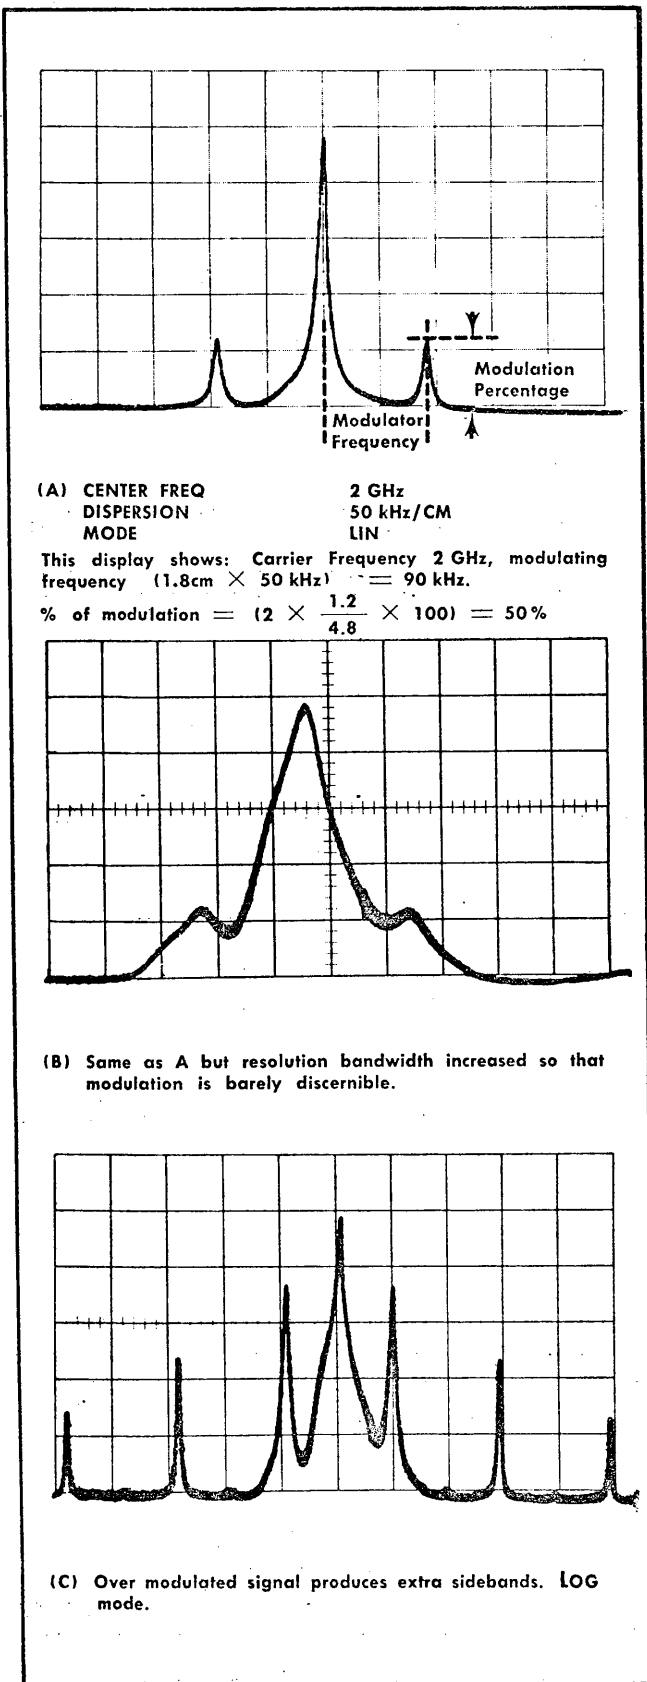

Fig. 2-13. Spectrum showing series of AM signals.
When a single frequency (CW) signal is amplitude-modulated by a signal frequency, two additional frequencies will be generated; the carrier plus the two sidebands. See Fig. 2-13. The amplitude of either sideband with respect to the carrier voltage is  $\frac{1}{2}$  the percentage of modulation. The frequency difference between the carrier and either sideband is equal to the modulating frequency.
Modulating frequency or frequencies and modulation percentage are the quantities most often desired from an AM signal measurement. Fig. 2-13 illustrates some amplitude modulated signals, the methods to measure the modulating frequency, and modulation percentage.